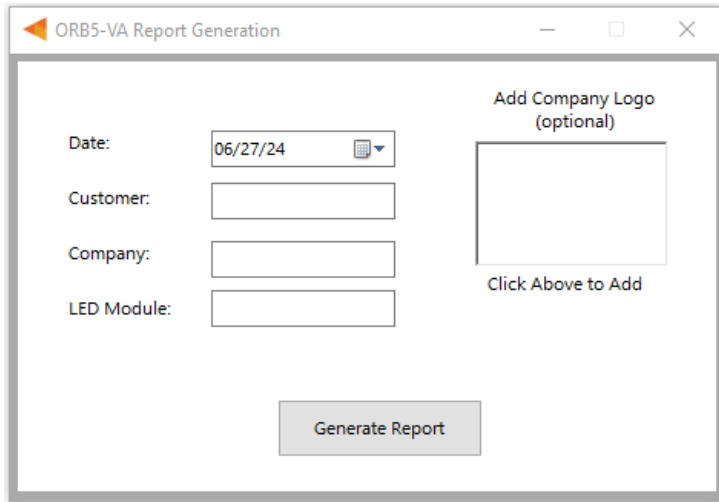

Figure 17: Report Generation window
1. Select **File > Generate Report**, or press **Ctrl+R**, to open the Report Generation Window (shown in Figure 17).